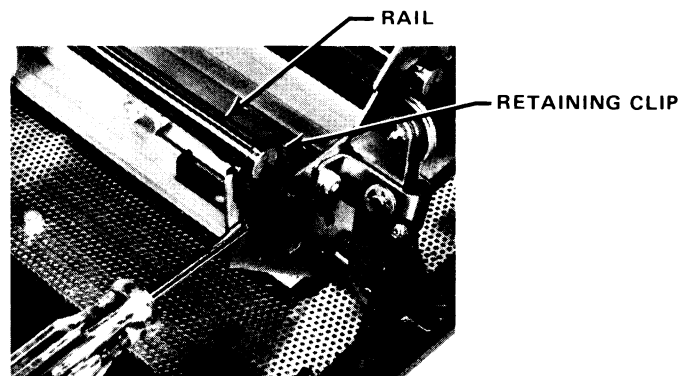

Figure 4-17. RAIL CLIP REMOVAL
- 6) Loosen the lock screw (C) on the snubber eccentric (D) slightly, and rotate the eccentric 1/2 turn clockwise to release the tension on the carriage drive cable (E).
- 8) Using a screwdriver or other suitable implement as shown in Figure 4-17, remove the retaining clips (4) from the ends of the two carriage rails. The clip is removed by rotating the screwdriver, not by prying. The shank of the screwdriver must be at least 8" long, and its blade must be narrow enough to insert through the clip.